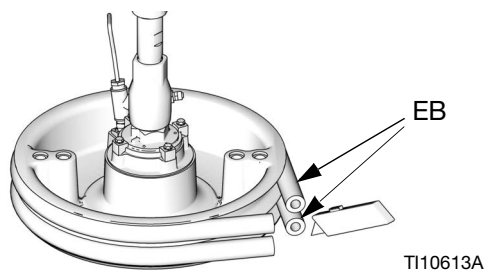

FIG. 19
2. Turn the disconnect switch (M) to OFF.
3. To replace worn or damaged wipers (EB), raise platen up out of drum. Remove drum from base. Wipe fluid off of platen.
4. Cut top and bottom wipers with knife and remove from platen. See FIG. 19.